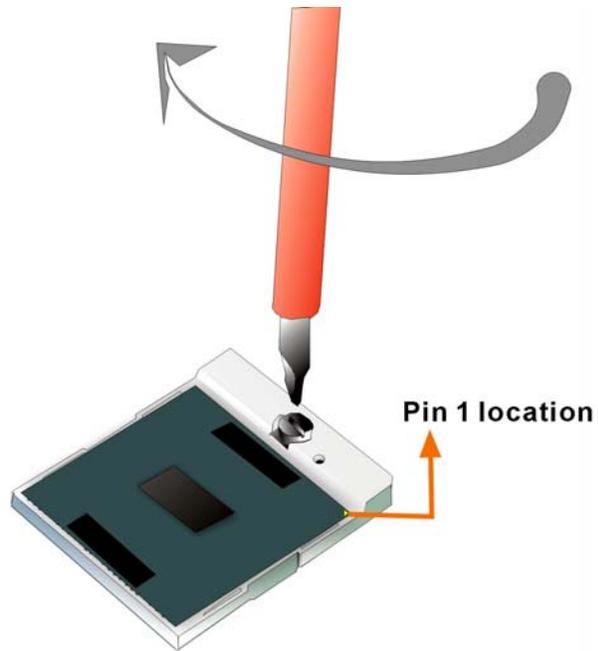

Figure 4-2: Lock the CPU Socket Retention Screw
- d. Rotate the retention screw into the locked position. (See **Figure 4-2**)